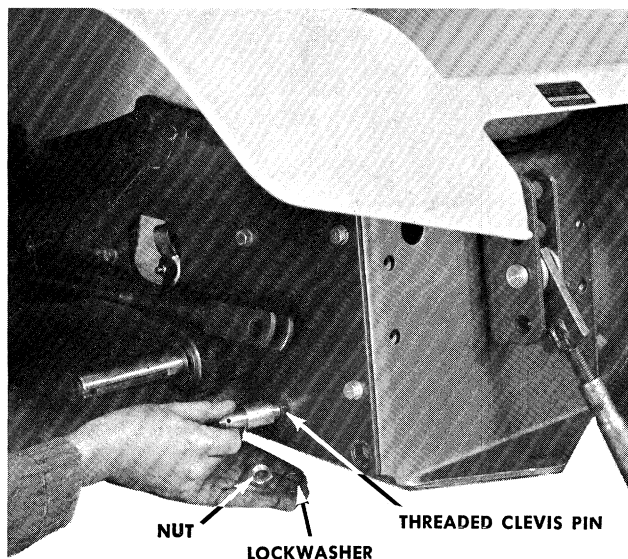

FIGURE 6. THREADED CLEVIS PINS
- Step 2. Assemble the threaded clevis pins to the hole on each side of the rear frame as shown. Fasten with lockwashers and nuts. See Figure 6.